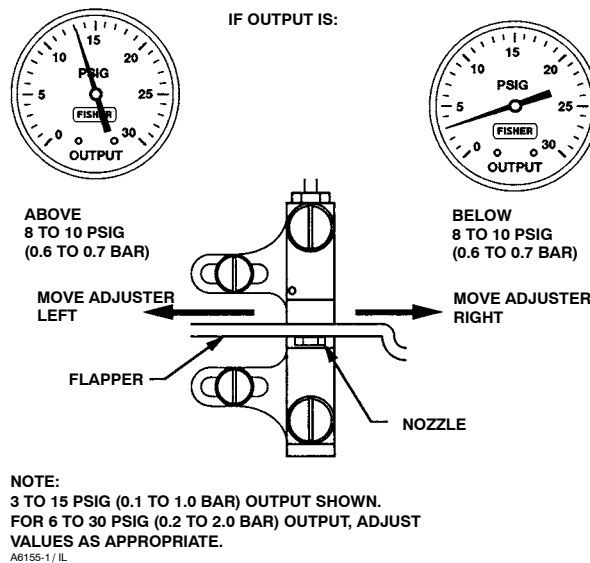

Figure 10. Reverse-Acting Controller Span Adjustment—Proportional-Plus-Reset Controllers
moving the calibration adjuster (key 41) a small distance as indicated in figure 10.
13. For controllers with anti-reset windup (Type 4160KF and 4162KF), remove the two machine screws, anti-reset windup cover, and two O-rings installed in step 1 of this procedure. Install the anti-reset windup assembly (key 186) with the arrow pointing in the direction recorded in step 1.